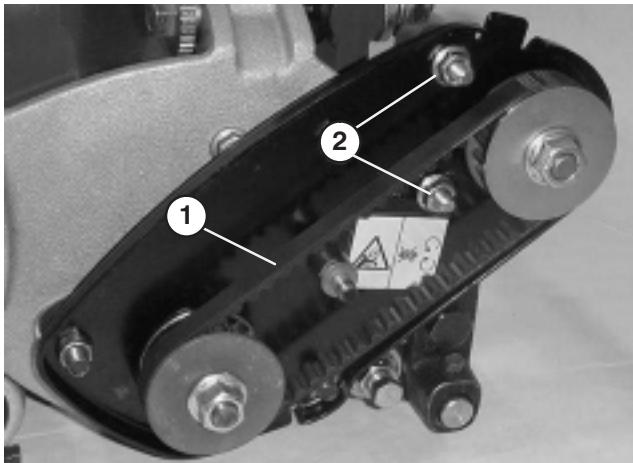

Figure 38
- A. Loosen the bearing housing mounting nuts (Fig. 38).
C. Tighten the bearing housing mounting nuts (Fig. 38). **Do not over-tension belt.**
A. Loosen the bearing housing mounting nuts (Fig. 38).